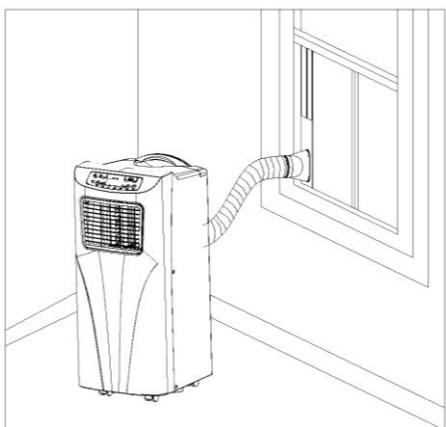
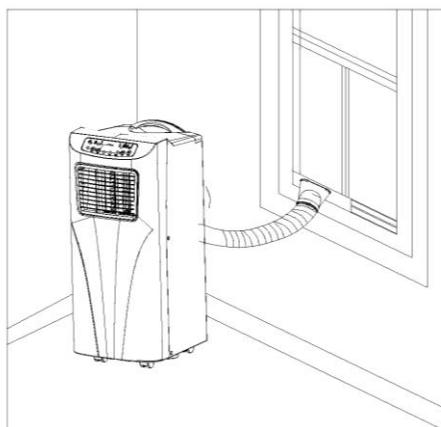

Figure 5
Figure 6
- 2) Elongate the exhaust pipe (as shown in Fig.5 and Fig.6) .